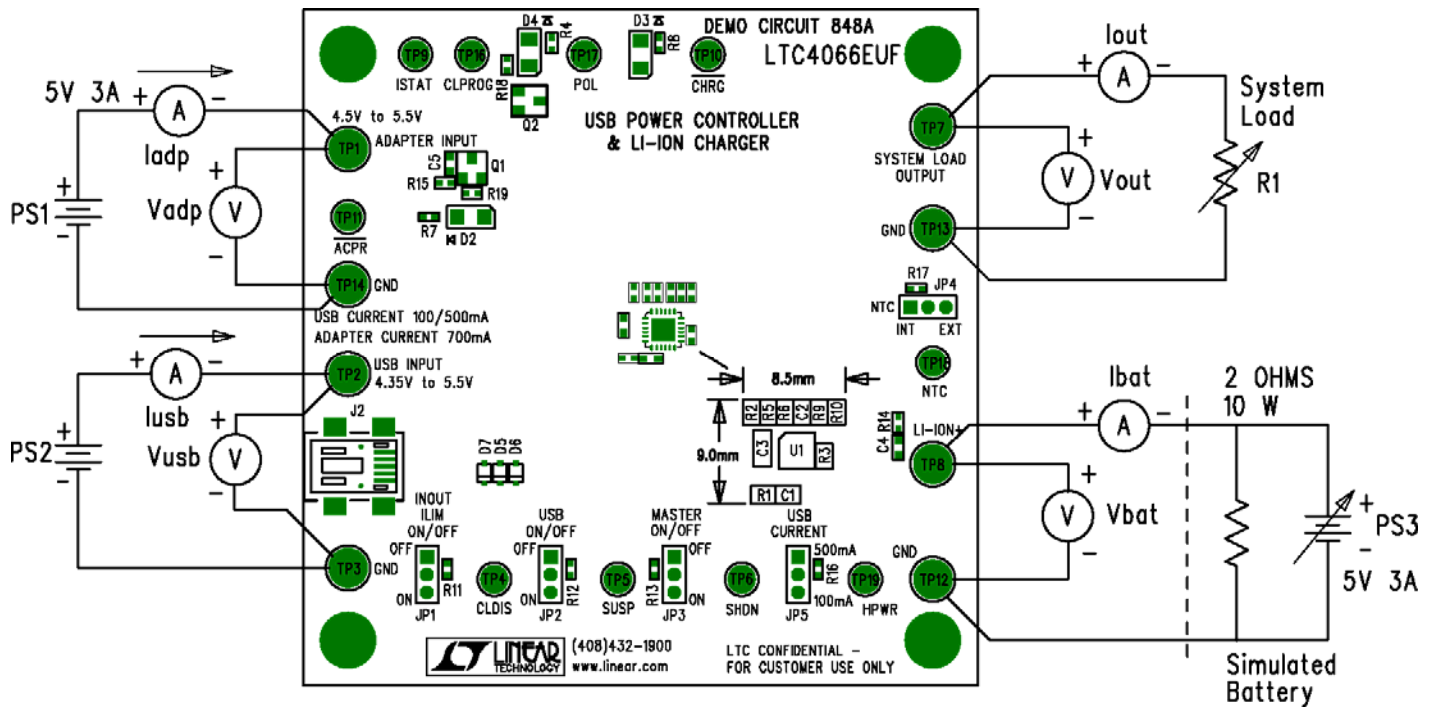

Figure 1. Proper Measurement Equipment Setup
Demonstration circuit DC848 is easy to set up to evaluate the performance of the LTC4066. Refer to Figure 1 for proper measurement equipment setup and follow the procedure below:
1. Connect input power supply, meters and output load as shown in Figure 1.